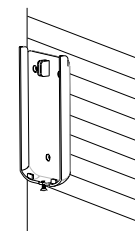

FIGURE 6
- Using the rear cover as a template, mark the positions of three fixing holes on the wall. Fasten the rear cover to the wall using the screws and wall plugs provided (FIGURE 6).